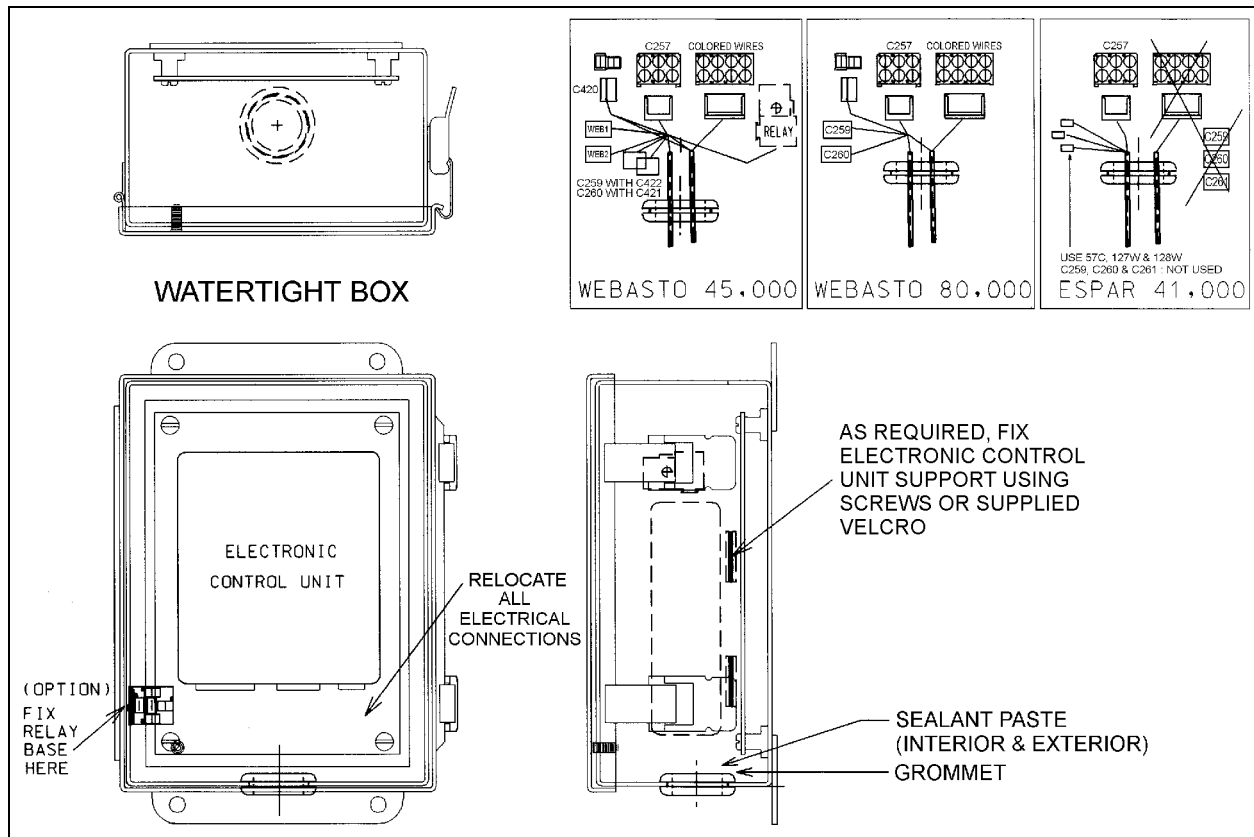

FIGURE 3
6. Secure relay (if required) to the box side (refer to figure 3). Make sure there is sufficient "Nyogel" insulation grease onto each terminal before making final connection.